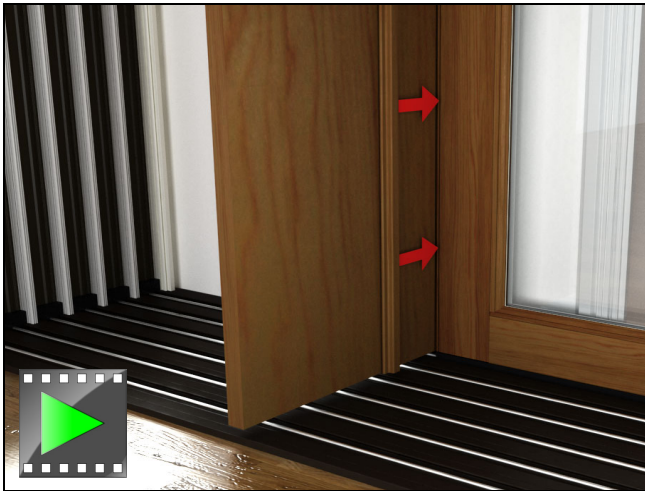

Figure 149
3. **Pocket units:** Other than single track doors, fasten pocket cover(s) onto pocket support block(s). See figure 149.